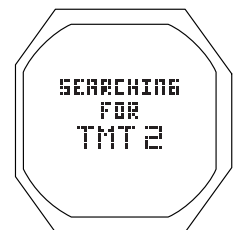

Fig. 100A - TMT SEARCH
- > After 2 seconds, a TMT Search screen (Fig. 100A) will appear for 10 seconds, then revert to the Main with the new Gas (and TMT) selected.